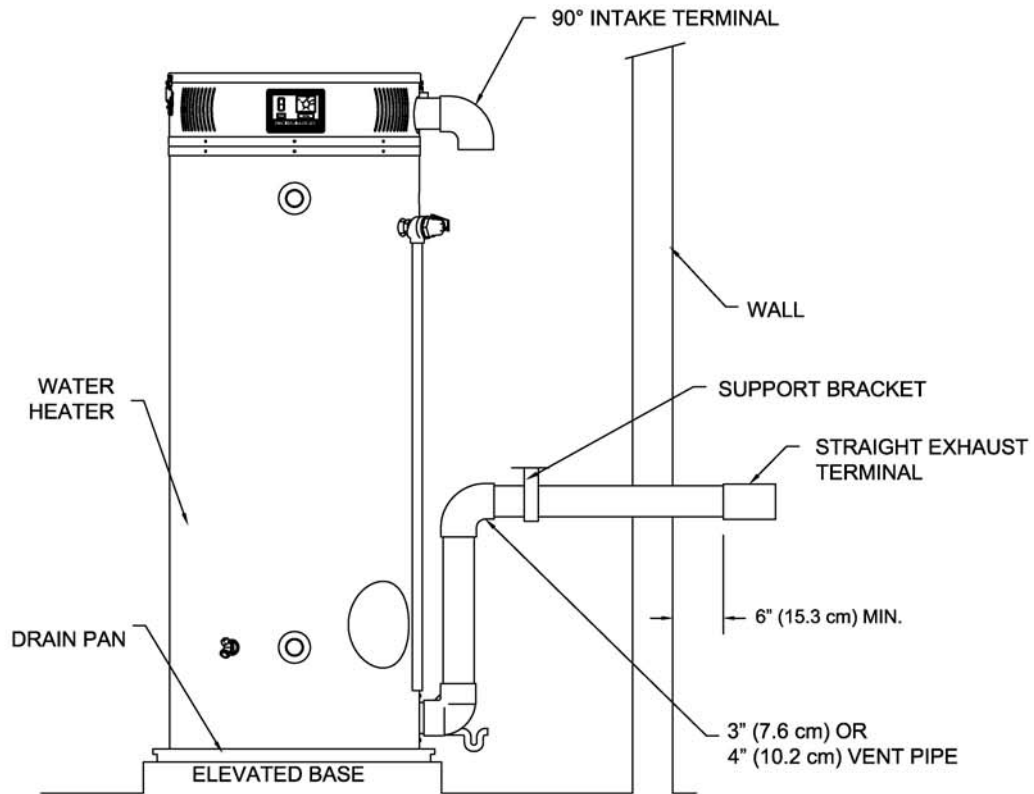

Figure 16. Typical Horizontal Power Vent System
2. Use the proper cement primers or sealant to secure the exhaust vent terminal provided with the water heater to the vent pipes. The distance between the back edge of the exhaust vent terminal and the exterior wall (see Figure 16) must 6 inches (15.2 cm). Use the proper cement and assembly procedures to secure the vent connector joints between the terminal and the blower outlet. Provide support brackets for every 3 feet ($.9\text{ m}$) of horizontal vent.